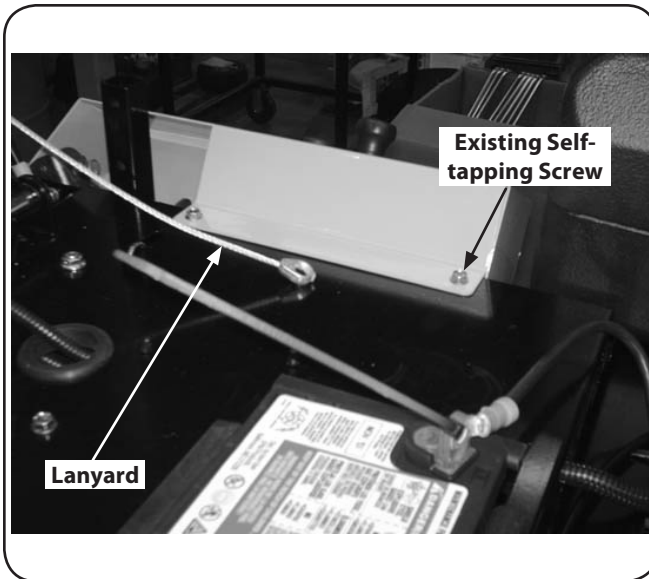

**Figure 3-4**
4. Install lanyard using existing self-tapping screw. See Fig. 3-4.